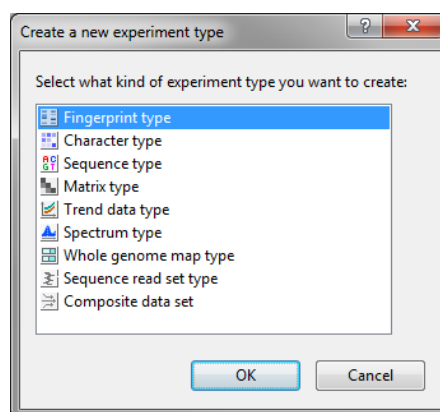

Figure 2.1: The *Create a new experiment type* dialog box.
- 2.1 In the *Main* window, click on  in the toolbar of the *Experiment types* panel and select **Fingerprint type** from the list (see Figure 2.1).